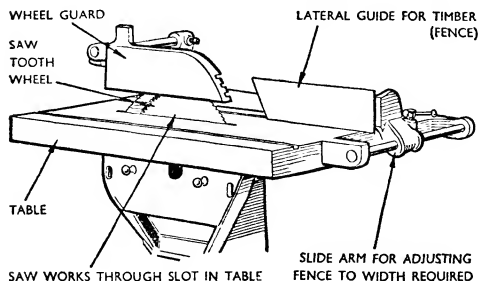

Fig. 2. Shown here are main parts of a typical circular saw, arranged to cut fencing timber.
**SAWS, MACHINE.** Mechanically operated saws are differently shaped for different purposes. There are circular, band and oscillating saws. Circular saws, see Fig. 2, are described as *cross-cut*, for cutting across the grain, and as *rip-saws*, for cutting along the grain, the cross-cut saws being further distinguished as *straightline*, *mitre* (when intended for cutting obliquely across the grain), *double* or *multiple* (for making two or more cuts in one operation) and *pendulum*. The pendulum cross-cut saw consists of a cast-iron frame, swinging from a point of suspension like a pendulum, with